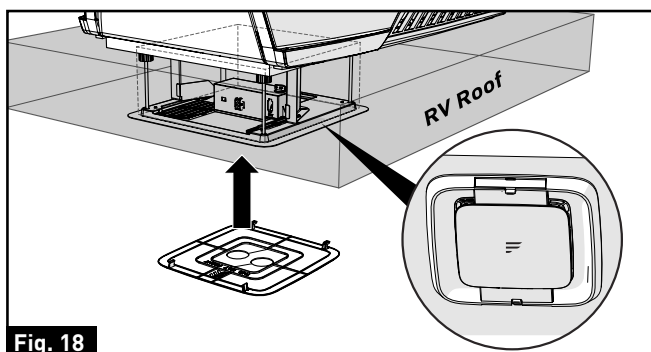

Fig. 18
20. Align the decoration plate tabs with the mating notches on the ADB shroud and push to snap the decoration plate into place. (Fig. 18)